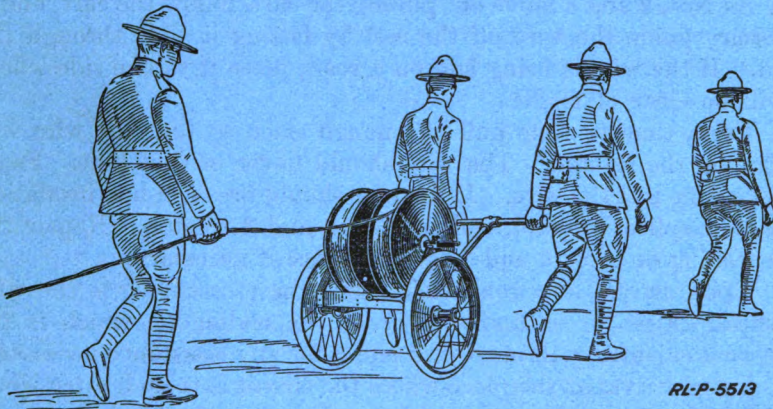

Fig. 21.—Laying wire with a pack reel cart
2. Direct the detail to follow and move out over the route on which the wire is to be laid. (See Fig. 21.) Pick the best route, considering both the ease with which the cart can be pulled and the natural facilities for placing the wire in the clear. Supervise the work of the detail.